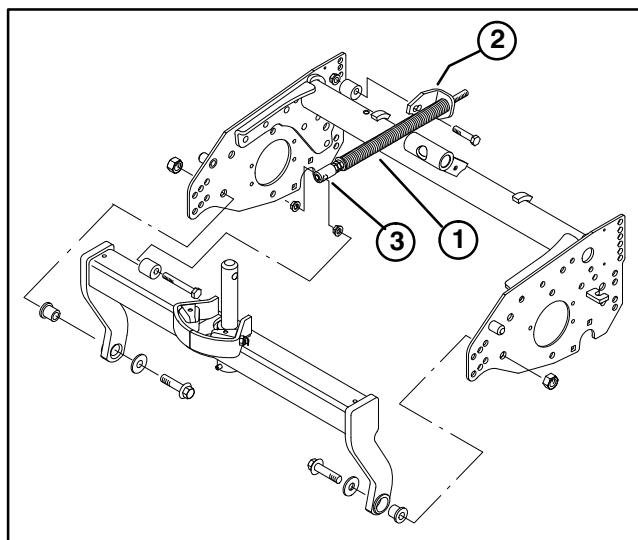

Figure 7
10. Using drilled out holes, mount new carrier frame to inside of each cutting unit side plate with a flange bolt, washer, frame spacer and lock nut. Position components as shown in figure 7.
11. Mount spring bracket to newly welded spacer tube with a 3/8-16 x 1-3/4" lg. flange head capscrew and flange nut (Fig. 7).
12. Mount the 3/8-16 x 2-3/4" lg. capscrew to carrier frame with a lock nut as shown in figure 7. Tighten nut securely.